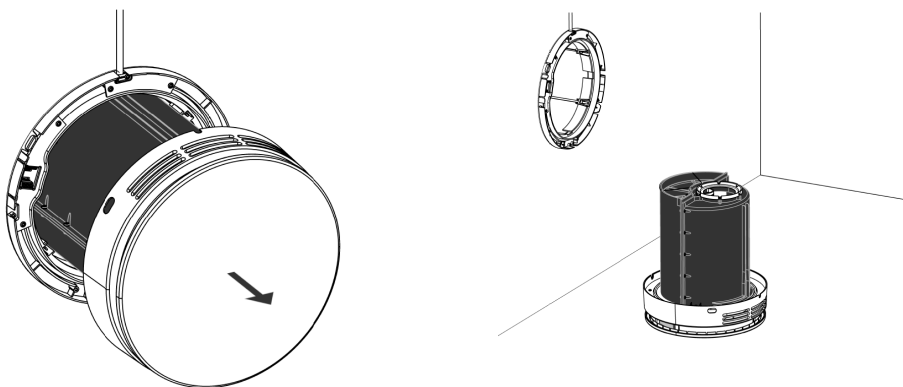

Figure 23 - Take the ventilation system out and place it down on the internal cover
4. Carefully pull the ventilation unit out of the wall and place it with the internal cover down on a level surface, e.g., a table or the floor, see Figure 23 below.